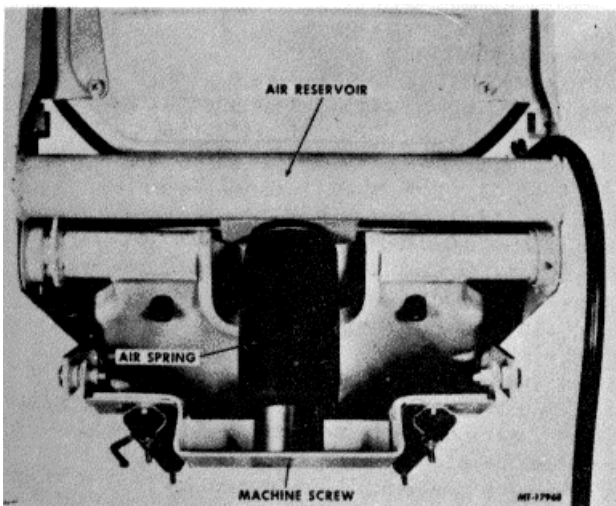

Fig. 8. Air Spring Assembly
1. Release air spring assembly from seat base assembly by removing machine screw and lock washer (Fig. 8). To perform this operation, removal of entire seat assembly may be required.